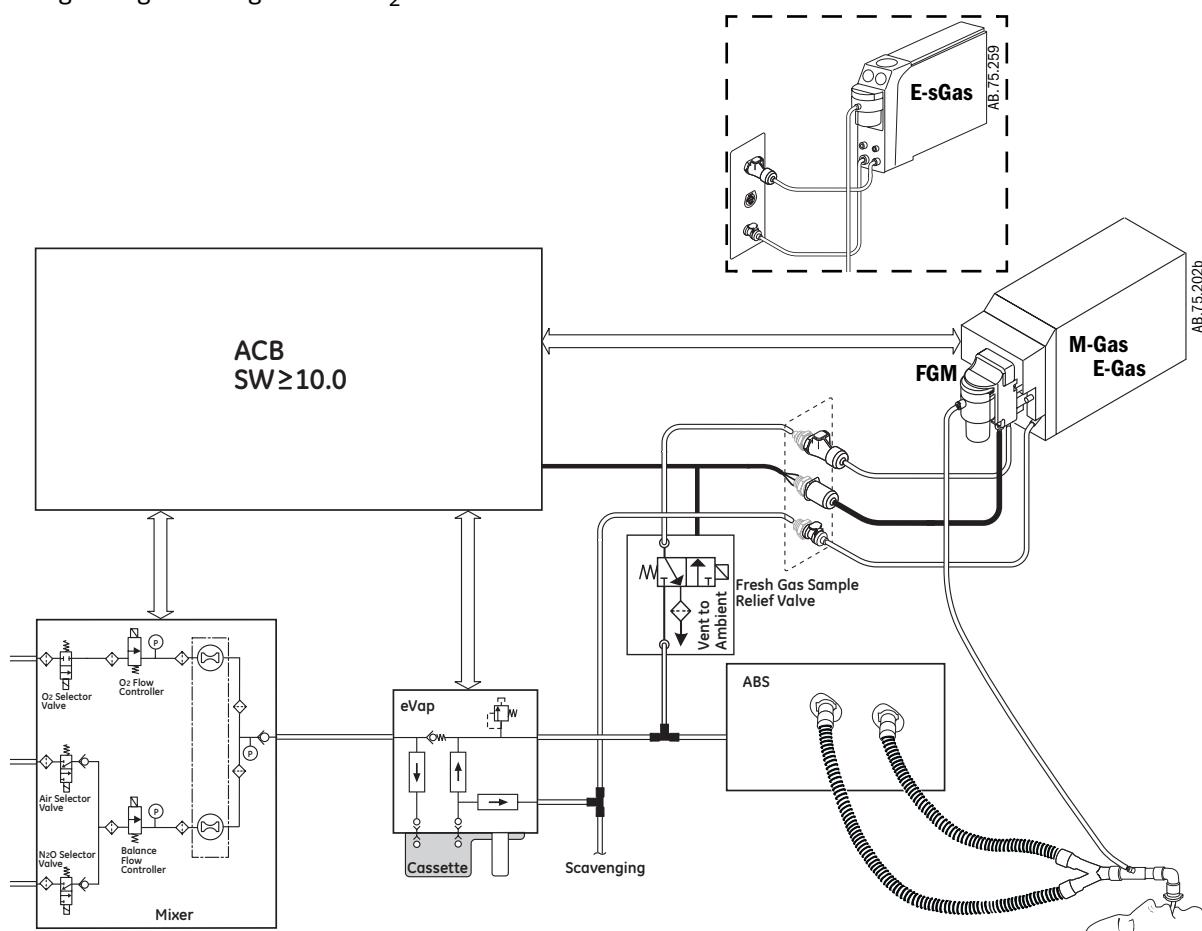

Figure 2-30 • Et Control
- The purpose of the Fresh Gas Sample Relief Valve, shown in Figure 2-30, is to ensure that during the module zeroing phase, no mixed gas or agent is detected by the E-sGas Module, possibly creating an inaccurate zero or reading. The valve is normally closed, which prevents any fresh gas from flowing to the Fresh Gas Module Sample port connection on the bezel. The valve is energized when the Module is performing the Fresh Gas Sample check associated with the Et Control option.